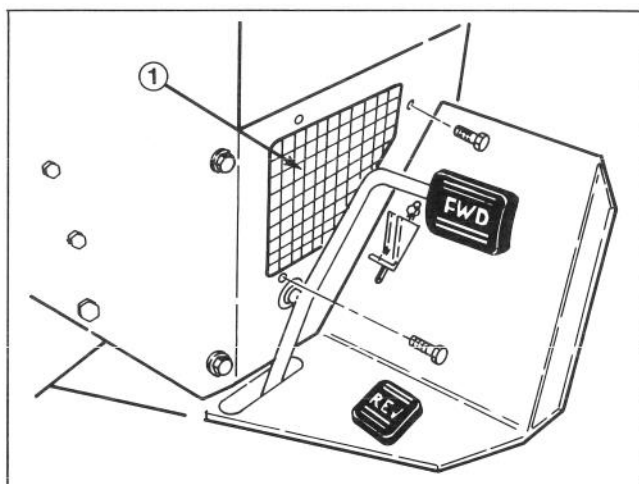

Figure 40
1. Remove (3) self tapping screws securing support screen to hydraulic support panel (Fig. 40). Remove screen.